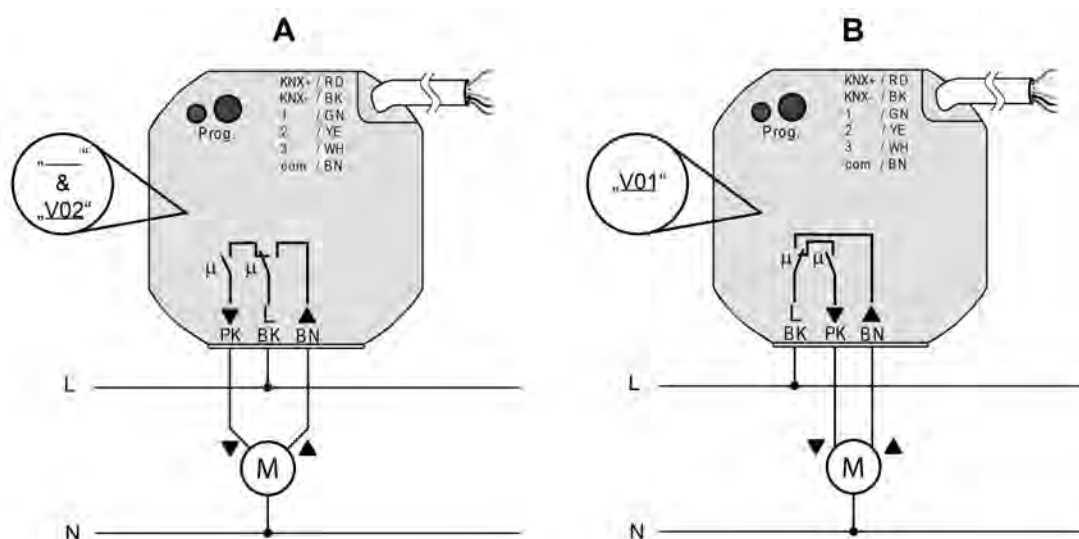

Figure 4: Connection of the mains voltage and the load (depending upon the version labelling)
- (4) Device box (e.g. electronics box)
- (5) Partition
- (6) Series switch
- (7) Potential-free contact, e. g. window contact
- Connect the mains voltage and the Venetian blind drive using the included screwless terminals. Connect the mains voltage and load in accordance with the labelling on the housing print image (Figure 4)!